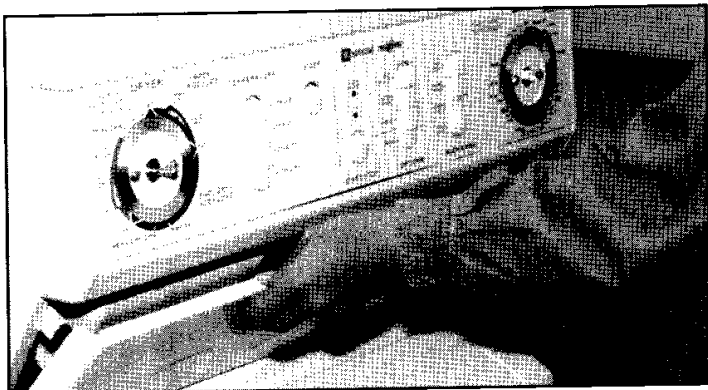
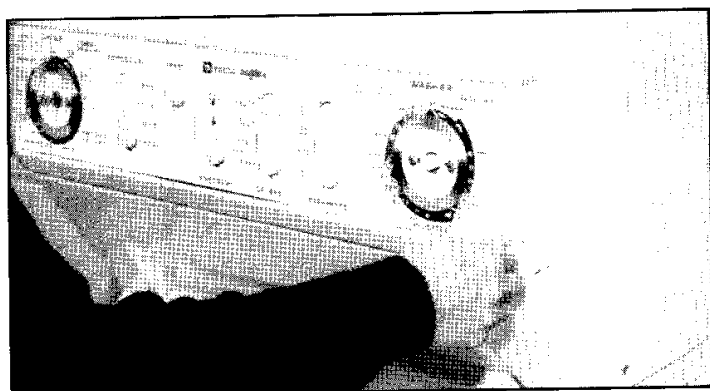

Figure 51
Figure 52
- 22.** Rotate access panel into position, and secure with white or almond screws supplied in the miscellaneous parts package. (See figure 51.) Remove protective film from fascia and tape from edges of control panel. (See figure 52.)